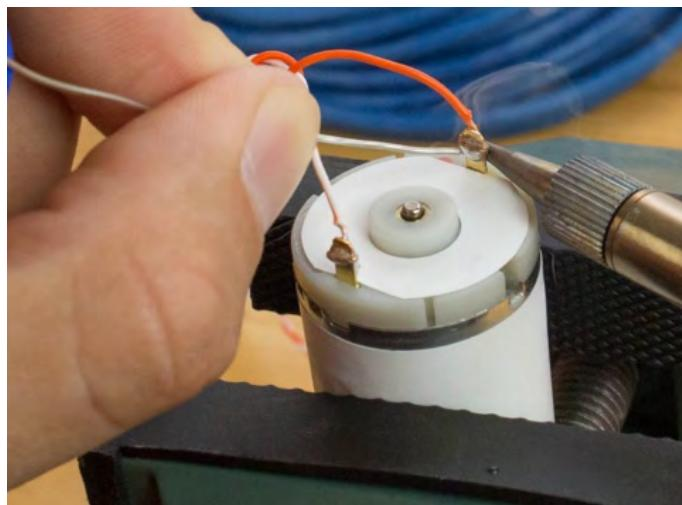

Figure 20
- Hold the tip of the soldering iron parallel to one of the terminals, touching the terminal and the wire for a few seconds to heat the connection. (Figure 20)